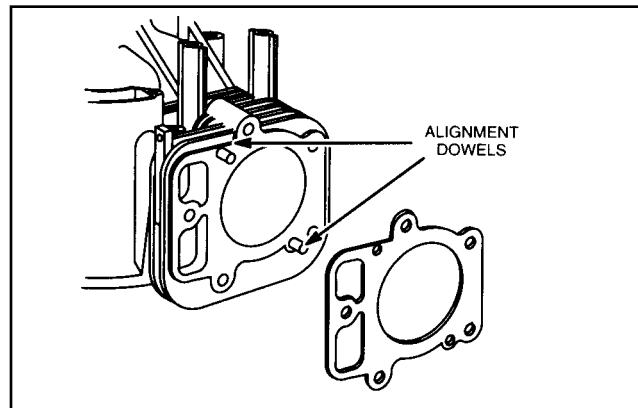

Fig. 23 - Install Cylinder Head Gasket
1. Place cylinder head gasket over alignment dowels on cylinder block, Fig. 23.